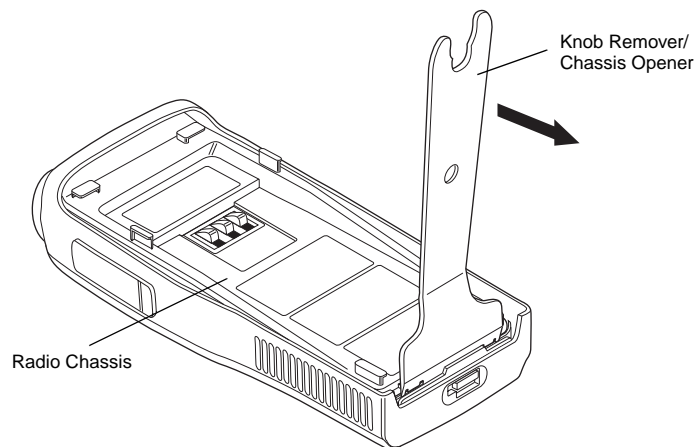

Figure 2-3. Chassis Removal
5. Separate the chassis from the front housing assembly by using the knob remover/chassis opener tool. Place the broad side of the opener into the slots located at the base of the radio (Figure 2-3). Press the handle of the opener downwards. This pressing action forces the thin inner plastic wall toward the base of the radio, releasing the two chassis base tabs.